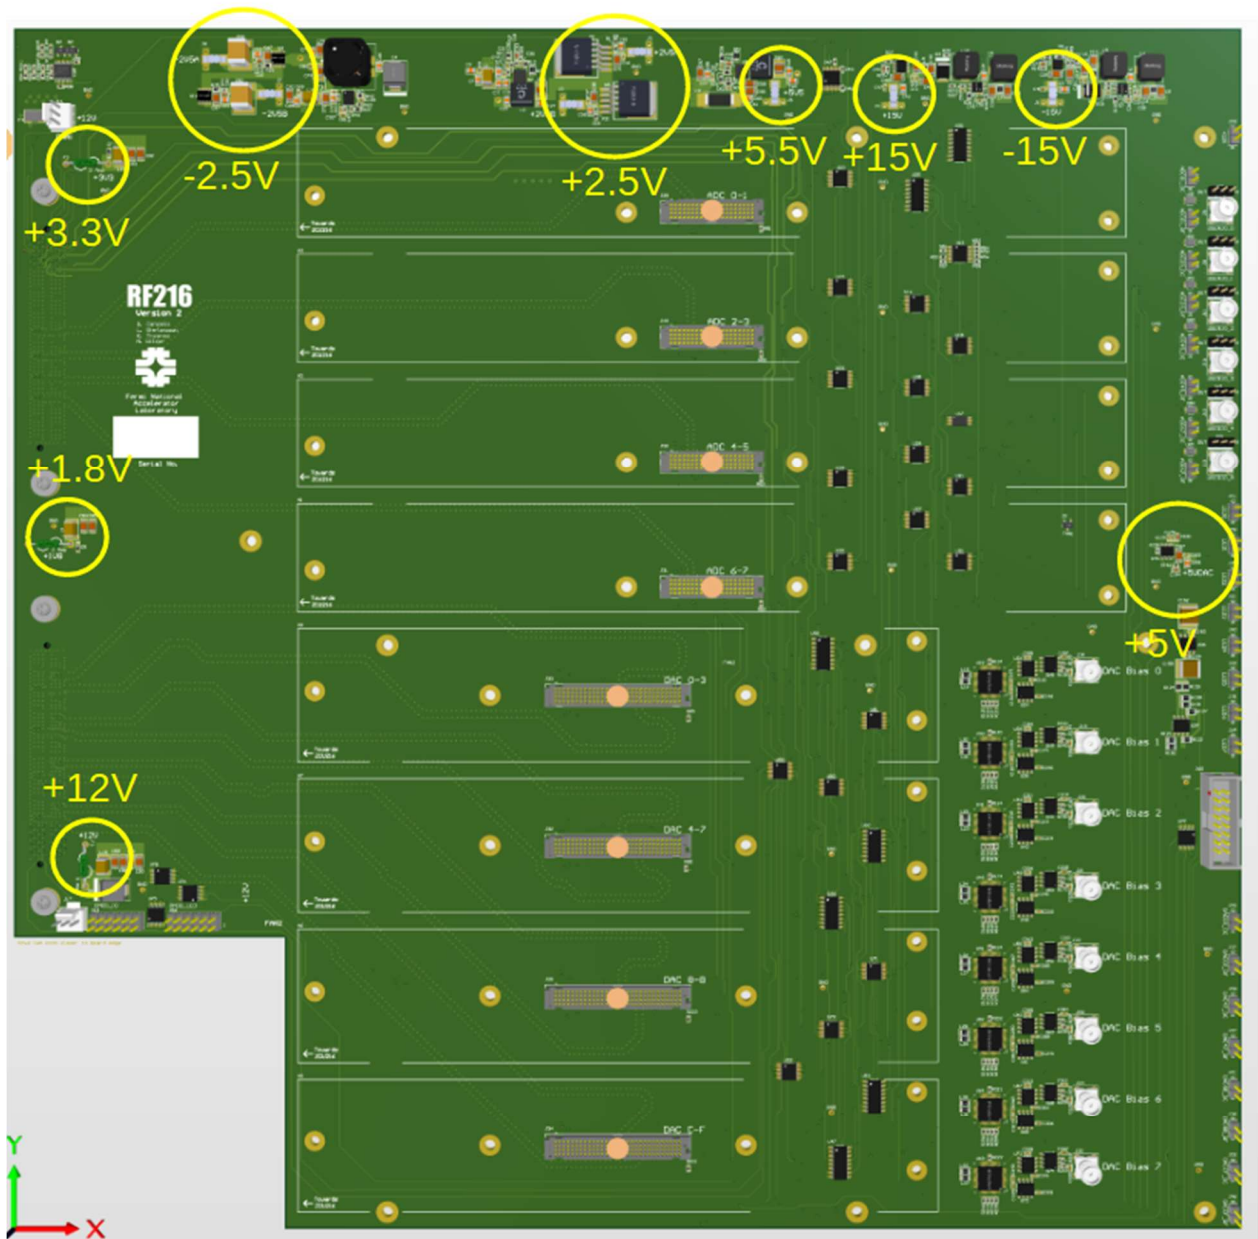

Figure 9- RF216 Main Board Showing Power Supply Locations
2. Check for shorts between the power supply jumpers/fuses and GND. There are multiple GND vias available on the board. See figure 9.